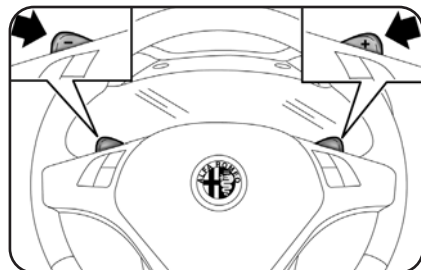

fig. 8
While driving with the transmission in automatic mode (selector lever in position D), when gearshifting is required by the levers (fig. 8) on the steering wheel, the system shifts to fully manual mode, with relevant displaying of the gear engaged, for about 5 seconds; then, if the levers are not operated anymore, the system goes back to the automatic mode (D), with following displaying.